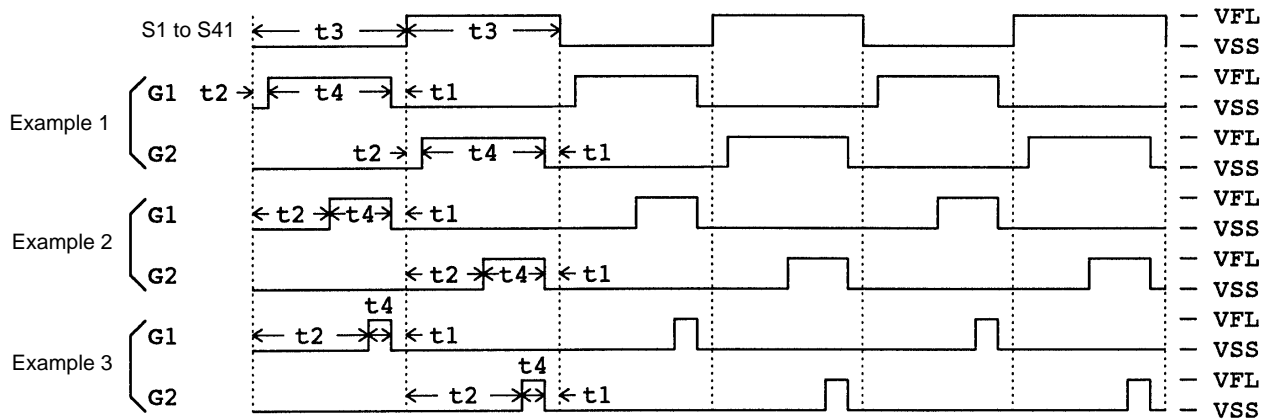

Figure 5
- Figure 5 shows the case where the display data is set up so that the segment outputs S1 to S41 output the V_{SS} level with the same timing as the G1 and G2 digit outputs, and output the V_{FL} level with the same timing as the G2 digit output. Here, the segments corresponding to G2 will be turned on. The relationship between $t3$ and the oscillator frequency f_{OSC} in this case is $t3 = 2048/f_{OSC}$.